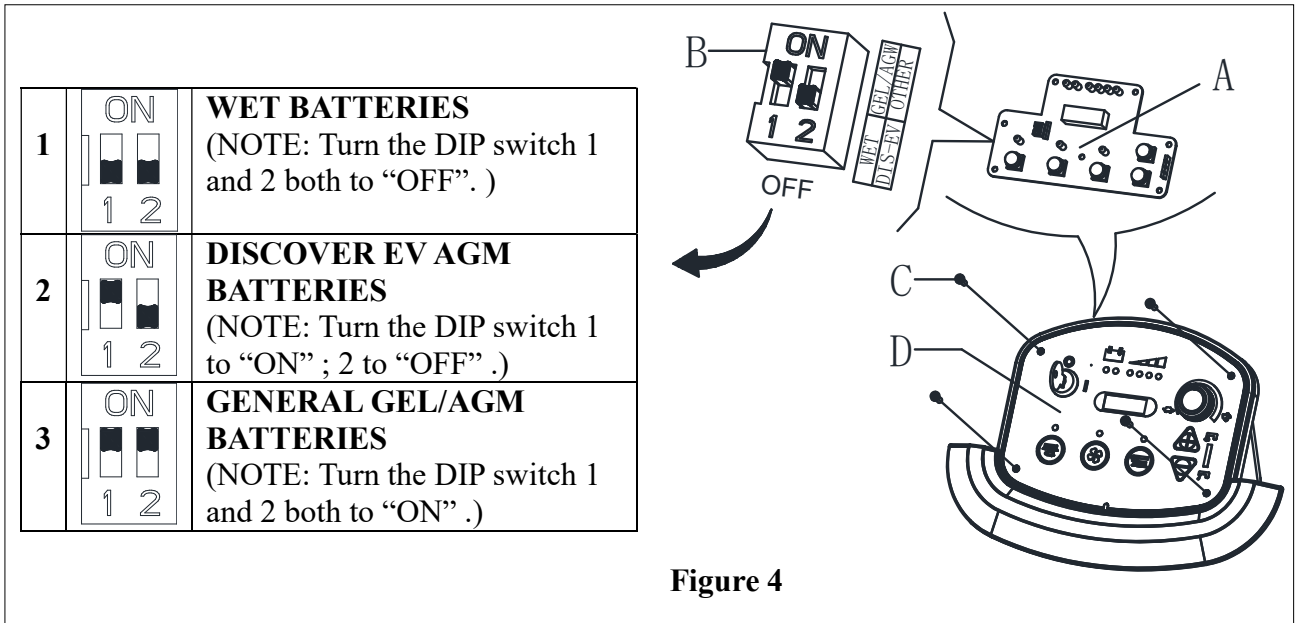

Figure 4
When install new batteries please refer to Figure 4 to adjust the DIP switches. Otherwise the batteries may be damaged.
- Turn the ignition key (35) to “I” and in the very first seconds of machine operation pay attention to the following:
- If the first green warning light (38) is flashing, the machine is set to GEL/AGM.
- If the yellow warning light (37) is flashing, the machine is set to Discover EV AGM.
- If the red warning light (36) is flashing, the machine is set to WET.
- Remove the screws on control panel (C, Figure 4), then turn over the PCB (A Figure 4) to find the DIP switch (B, Figure 4) for setting battery type (WET or Discover EV AGM or GEL/AGM), (Refer to 1 or 2 or 3).
1. Press both the buttons (A, Figure. 4) and (B) at the same time, Insert the ignition key (D) and turn on the power, after 0.5 second, enter battery setting mode. LED display during setting (C), Release the buttons.
2. The mode can be shift from 0 to 5 by pressing button (B), or shift from 5 to 0 by pressing button (A). After the battery mode setting is completed, turn off the power (D) and the new setting of battery mode can be saved automatically.